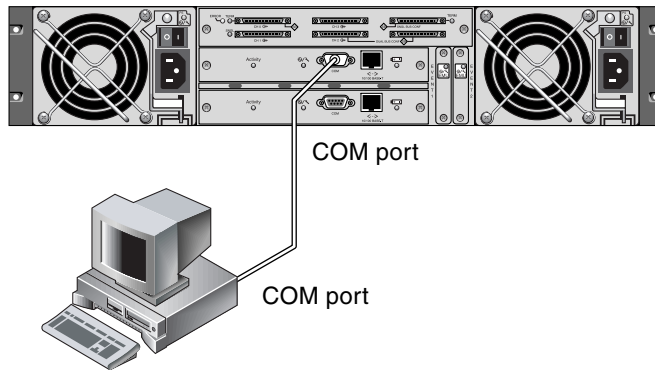

FIGURE D-1 RAID Array COM Port Connected Locally to the COM Port of a Workstation or Computer Terminal
1. **Connect the RAID array COM port to a serial port of a Solaris workstation (see FIGURE D-1).**